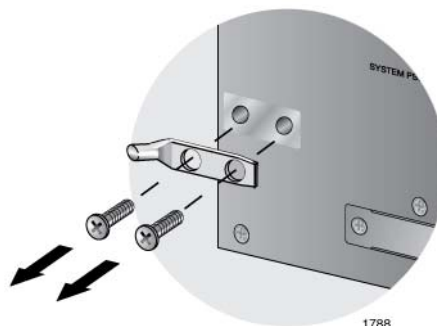

Figure 52. Removing the Grounding Lug
2. Remove the two screws that secure the grounding lug to the rear panel of the chassis, as shown in Figure 52.